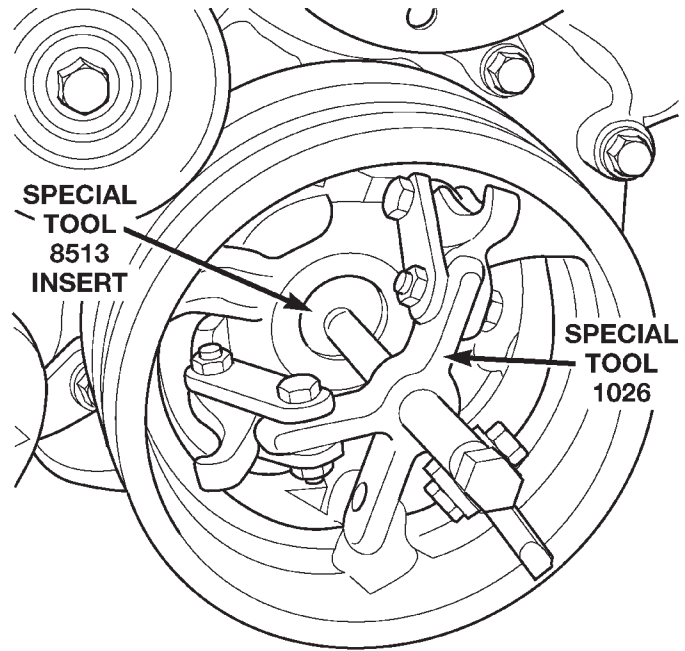

Fig. 108 Crankshaft Damper—Removal
(10) Remove radiator shroud.
(11) Remove crankshaft damper bolt.
(12) Remove damper using Special Tools 8513 insert and 1026 three jaw puller (Fig. 108).